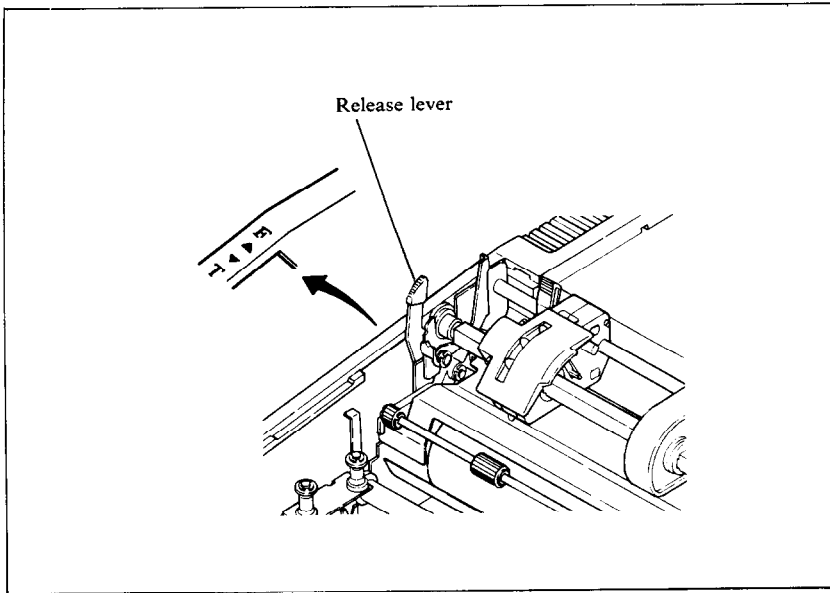

Figure 2-4. The paper release lever has two settings: "F" for friction feed and "T" for tractor feed.
2. Pull the release lever to position "T" (Figure 2-4).